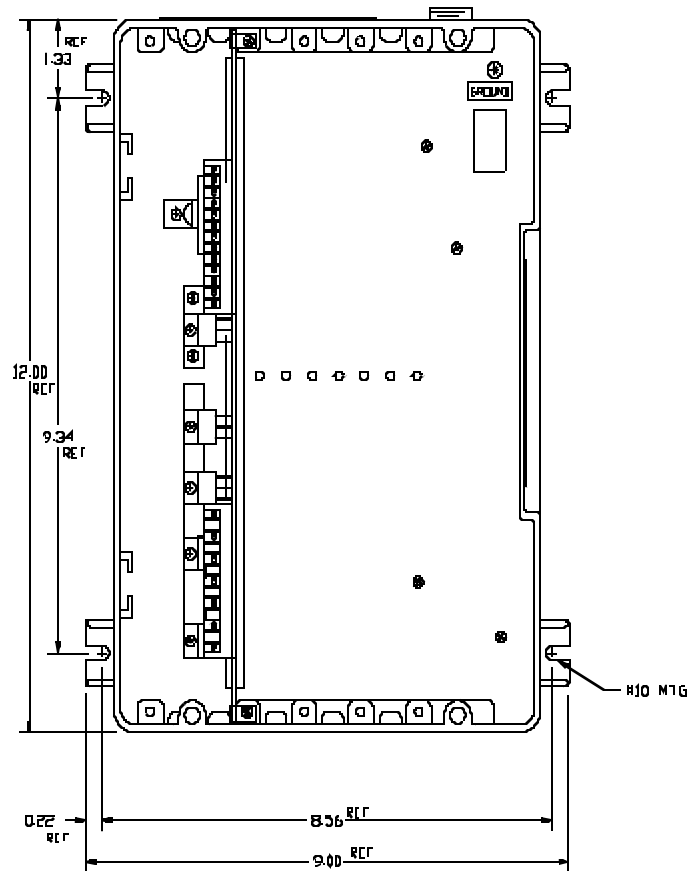

FIGURE 1. CONTROLLER MOUNTING DIMENSIONS, MODELS 2601 AND 2602
1. Mount the controller. Mounting dimensions are shown in Figure 1, below.